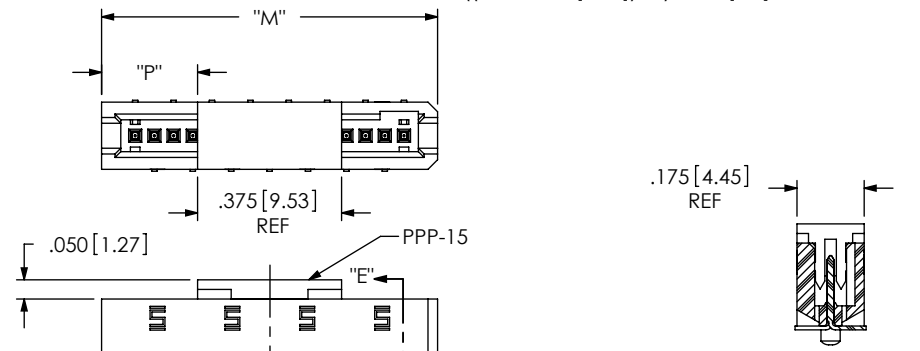

**FIG 3**
- K: POLYIMIDE FILM (SEE FIG 3, SHEET 2) (USE K-DOT-.217-.313-.005)